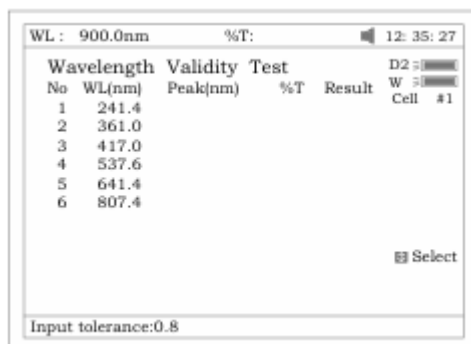

Fig.98
4. Press **【F3】** to set tolerance (Fig 98). Input the value by pressing the numeric keypad.